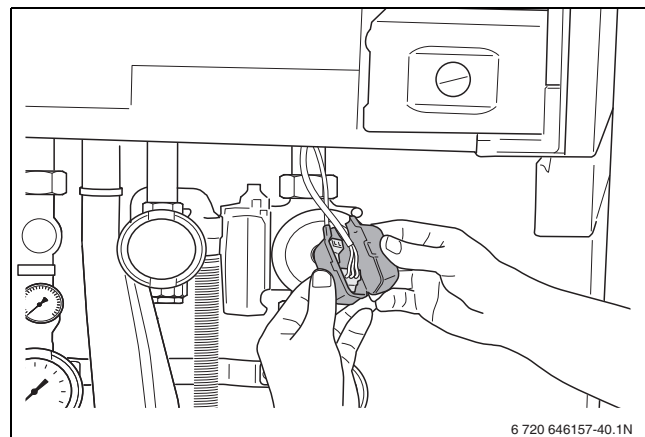

Fig. 44 Removing the covers
- ▶ Remove the covers of both free connectors on the function module connection cables (→ fig. 44).
- ▶ Connect the free 120 VAC mains cable (→ fig. 44) to the module [1]. If more modules are used, the 120 VAC supply for the second module can be taken from the first module using the cable enclosed with the module.